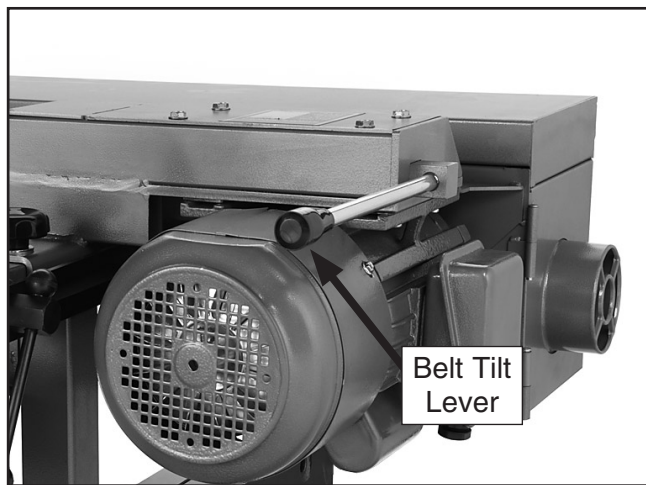

Figure 32. Belt tilt lever.
22. Thread the belt tilt lever into the platen assembly, as shown in **Figure 32**.